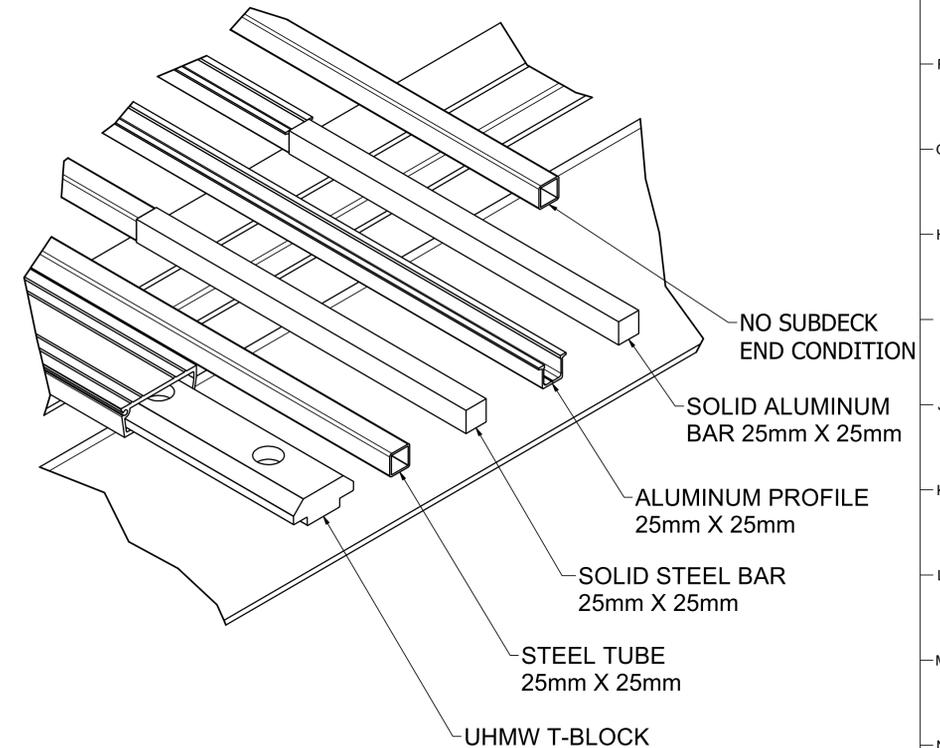

FIGURE 13: SUBDECK END CONDITIONS
2. CHOOSE THE SUBDECK END CONDITION MOST SUITABLE TO YOUR APPLICATION (SEE FIGURE 13). SUBDECK ENDS WILL TYPICALLY BE 12mm FROM THE DOORS OF THE TRAILER. RECOMMENDATIONS AND INSTALLATION INSTRUCTIONS FOR DIFFERENT STYLES OF SUBDECK BELOW.